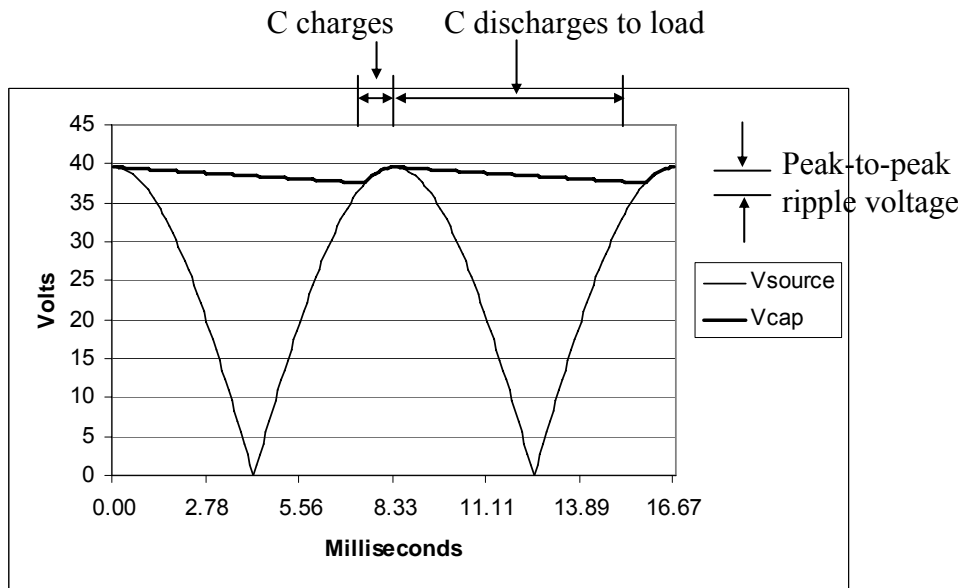

Figure 3. Impact of C on Load Voltage
the waveform for V_{dc} takes the form of V_{cap} in Figure 3.
As the load power increases, the capacitor discharges faster, the peak-to-peak ripple voltage increases, and the average dc voltage (i.e., the average value of the V_{cap} curve in Figure 3) falls. For zero load, V_{cap} remains equal to the peak of the rectified source voltage, and the ripple voltage is therefore zero.
For constant power cases, peak-to-peak voltage ripple can be computed using energy balance in the capacitor as follows. If the “C discharging” period in Figure 3 is Δt , where $\frac{T}{4} \leq \Delta t \leq \frac{T}{2}$, then the energy provided by C during Δt is
where V_{peak} and V_{min} are the peak and minimum capacitor voltages in Figure 3, and P is the DC load power (approx. constant). From (1),